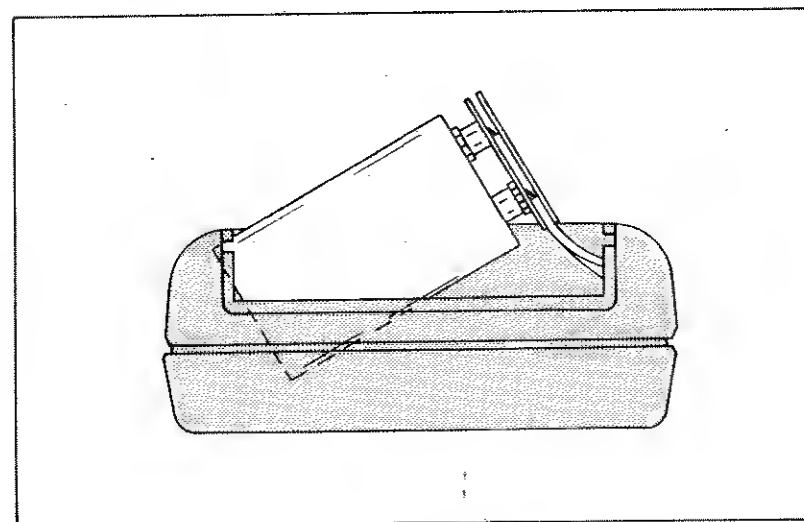

Figure 2-2. Battery Removal
4. Tilt the battery out as shown in Figure 2-2.
6. Carefully pull the battery clip free from the battery terminals as shown in Figure 2-2.